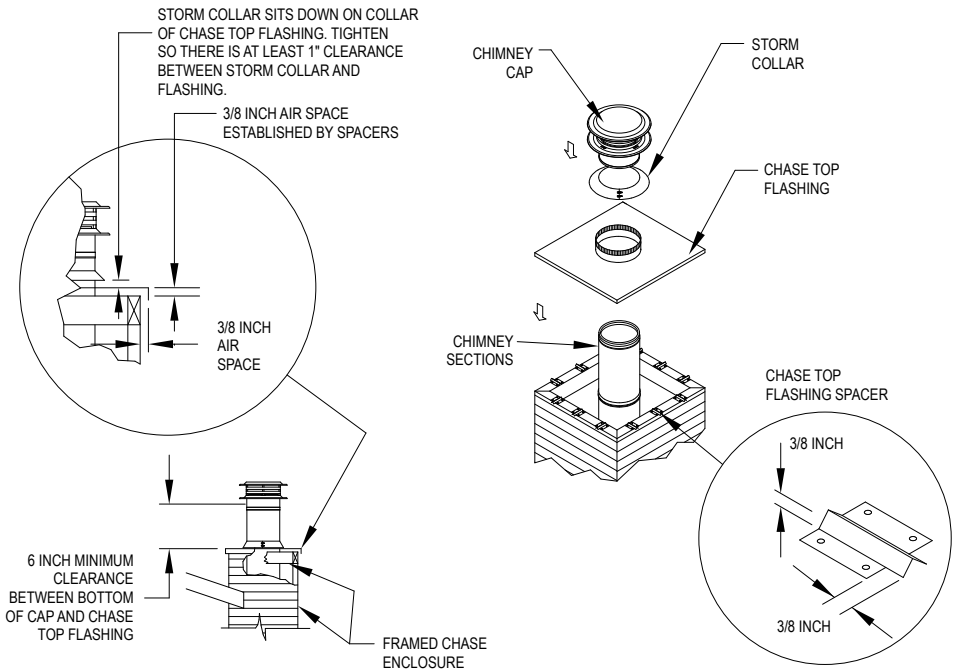

Figure 23
8. Install Chase Top Flashing: It is recommended that a Tee Supported Chimney be enclosed in a chase. If a chase enclosure has been constructed, you can either use a standard flat-roof flashing, or you can use a Chase Top Flashing. Using a Chase Top Flashing allows for a lower profile for the chimney. The Chase Top Flashing has an opening in the center that has a 3" larger diameter than the the outer diameter of the DuraTech Chimney. If the Chase Top Flashing can fit over your chase enclosure as required (**Fig 23**) then install as directed, or trim as needed. However, if the Chase Top Flashing is smaller than your chase enclosure, the you will need to provide a galvanized sheet capable of covering your chase and overhanging the each side by 1/4-1/2 inch. Attach the Chase Top
Flashing to the galvanized sheet using sheet metal screws and non-hardening waterproof sealant. Use the Chase Top Flashing Spacers to allow the proper air-gap clearances on the galvanized sheet. The Chase Top Flashing Spacers are available to insure that the proper air-gap is maintained. **Figure 23** displays in some detail, how these air gaps are established using the Spacers and Chase Top Flashing. Secure the Chase Top Flashing to the chase using a sufficient number of #8, 1-1/2" wood screws, being careful to insure the air gap is maintained between the flashing and the chase. Seal the screw heads with non-hardening sealant. Install the Storm Collar directly down on top of the collar of the Chase Top Flashing.